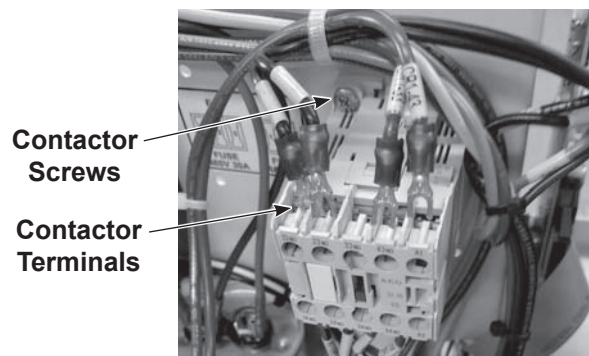

Figure 5 Removing Old Contactor
4. See Figure 5. Disconnect terminals from old contactor.